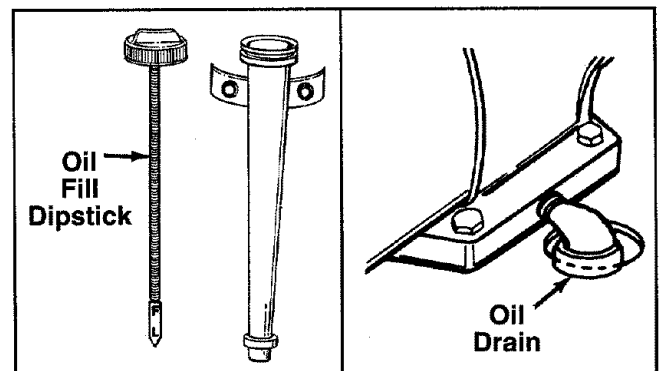

FIGURE 12.
- Fill engine with oil as follows. Remove oil fill dipstick. See figure 12. With chipper-shredder level, use a funnel to fill engine with oil to FULL mark on dipstick. Capacity is approximately 1-1/4 pints (20 oz.). Be careful not to overfill. Tilt chipper-shredder toward the left (from behind the hopper), then re-level. Check oil level. Refill to FULL mark on dipstick if necessary. Replace dipstick and tighten.
Your four-cycle engine will normally consume some oil—therefore, check engine oil level regularly approximately every five hours of operation and before each usage. Stop engine and wait several minutes before checking oil level. With engine level, the oil must be to FULL mark on dipstick (refer to figure 12). Change engine oil after the first five hours of operation, and every twenty-five hours thereafter.